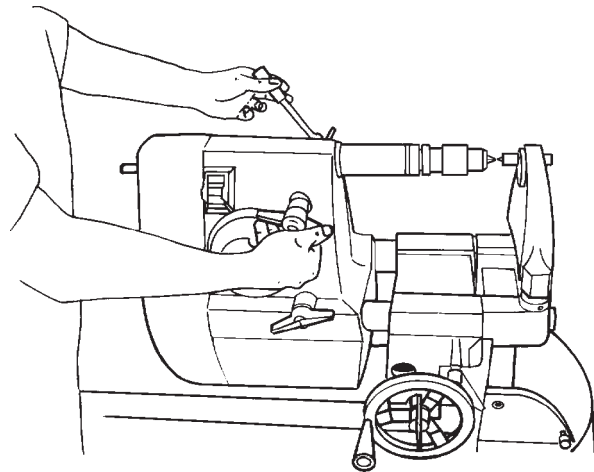

Figure B-116
88. Loosen the quill lock. Extend the quill (seen in Figure B-116), so the drill chuck almost touches the cup center point and the center point could fit into the chuck jaws.